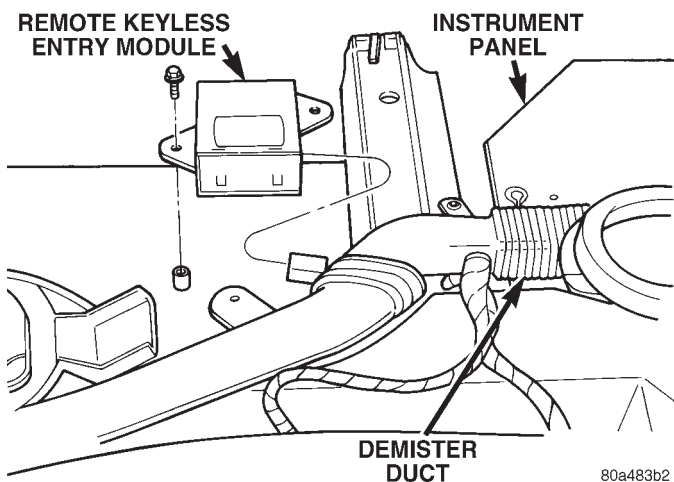

Fig. 2 RKE Module
(1) Remove instrument panel top cover. Refer to Group 8E, Instrument Panel and Gauges for proper procedures.
(2) Remove screws holding RKE module to instrument panel.
(3) Disconnect wire connector from RKE module (Fig. 2).
(4) Remove the RKE module.